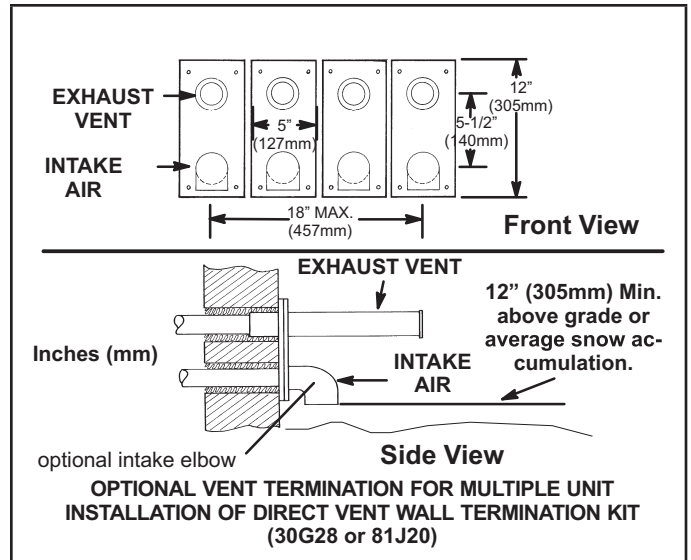

FIGURE 37
Intake and exhaust pipes may be routed either horizontally through an outside wall or vertically through the roof. In attic or closet installations, vertical termination through the roof is preferred. FIGURE 30 through FIGURE 37 show typical terminations.
- 8 - A multiple furnace installation may use a group of up to four terminations assembled together horizontally, as shown in FIGURE 37.